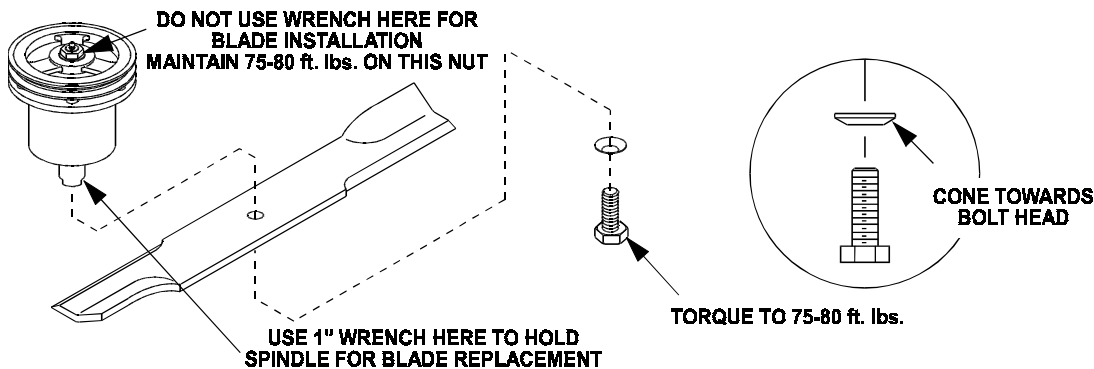

FIG. 4
- g) Re-install the blades (if they were removed) and torque blade bolts to 75-80 ft. lbs. Be sure the spring disk washer cone is installed toward the bolt head (See Figure 4).